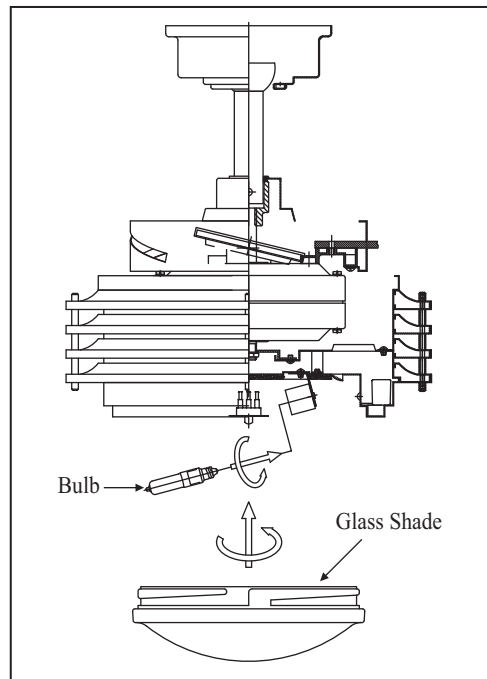

Figure 18
4. Install 100 watt JD type halogen bulb to the light socket. (Fig. 18)
5. Raise glass shade up against the light plate and secure it to fan by turning glass counterclockwise until snug. DO NOT OVERTIGHTEN. (Fig. 18)